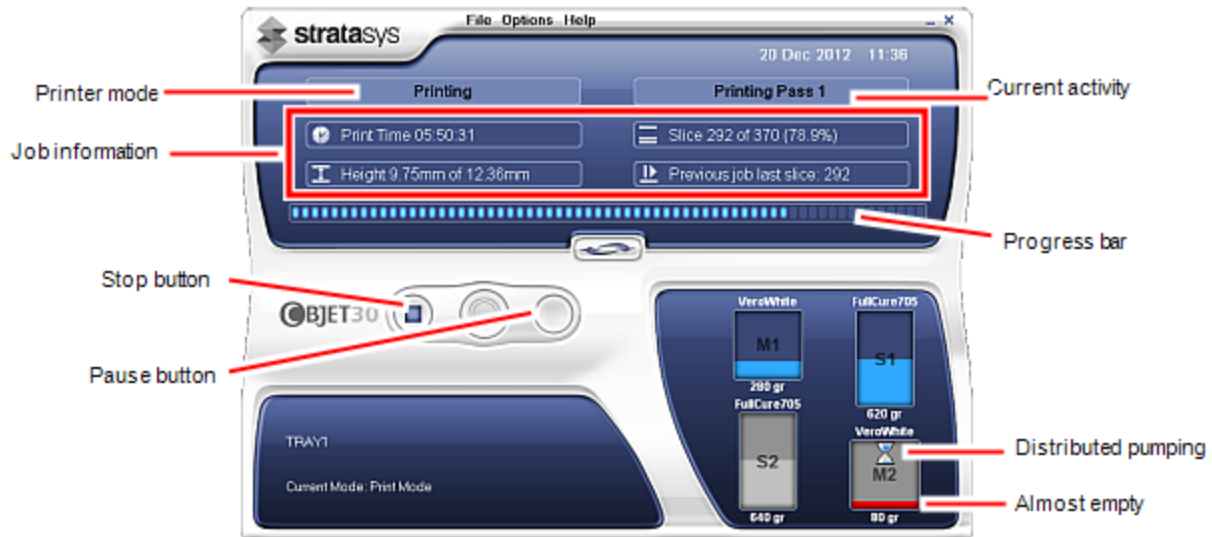

Figure 6-8 Printer interface during printing
When the weight of a cartridge drops below 100 grams, the printer alternates the pumping of material between the heavier and the almost-empty cartridge. This is indicated on the printer interface by an hour-glass icon. (See Figure 6-8 on page 6-11.)
**Note:** The printer mode is indicated in the green field on the left of the interface (see Figure 6-3, and Figure 6-8 on pages 6-4, and 6-11).